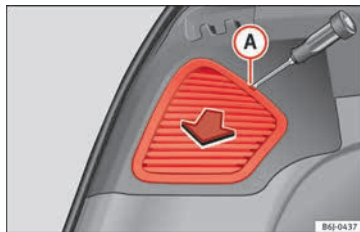

Fig. 111 Lights on the side.
- Remove the lid with a flat screwdriver, placing it in notch **(A)** » **Fig. 111**.